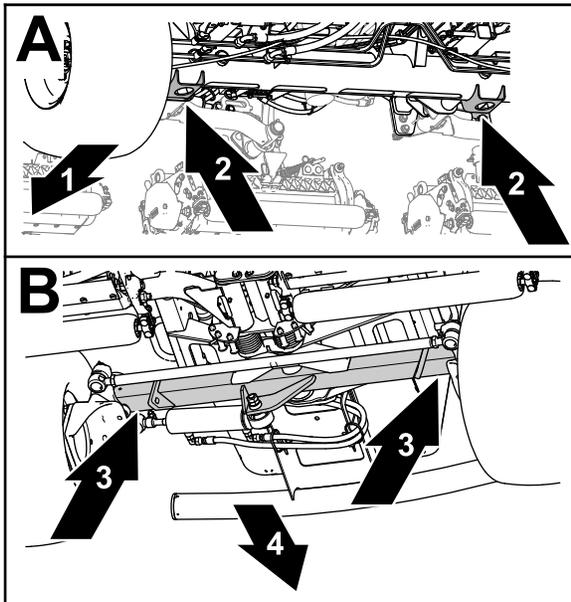

Figure 67
- Front—the jack brackets of the front-axle tube (Figure 67).